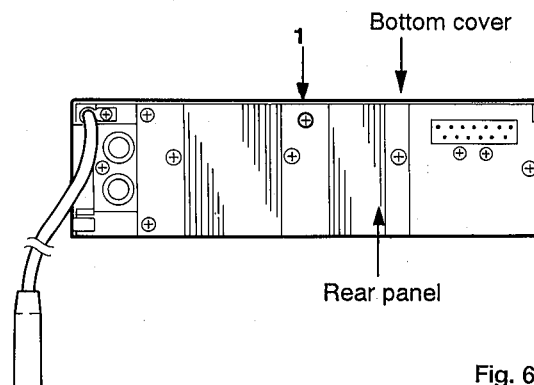

Fig. 6-1
■ Removal of bottom cover (Figs. 6-1, 6-2, 6-3)